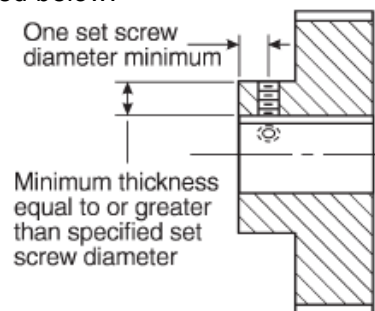

Figure 1 — Minimum Hub Thickness And Set Screw Placement Guidelines
2. The maximum bore diameter specified by the manufacturer for each sprocket size should NOT be exceeded, or a keyway used which reduces the hub thickness to less than its minimum allowable value. See the Sprocket Specification Tables for a listing of recommended bore ranges by sprocket size. Bores exceeding the maximum recommended value for a particular sprocket size can adversely affect the structural integrity, thereby reducing their load-carrying capability. The minimum metal thickness between the keyway and hub O.D. should be no less than the set screw diameter specified for the corresponding sprocket size. See Figure 1 below.
- Each set screw should be placed axially—a minimum of one set screw diameter from the end of the sprocket hub extension. See Figure 1. For recommended set screw tightening torque values see Table 3 below.